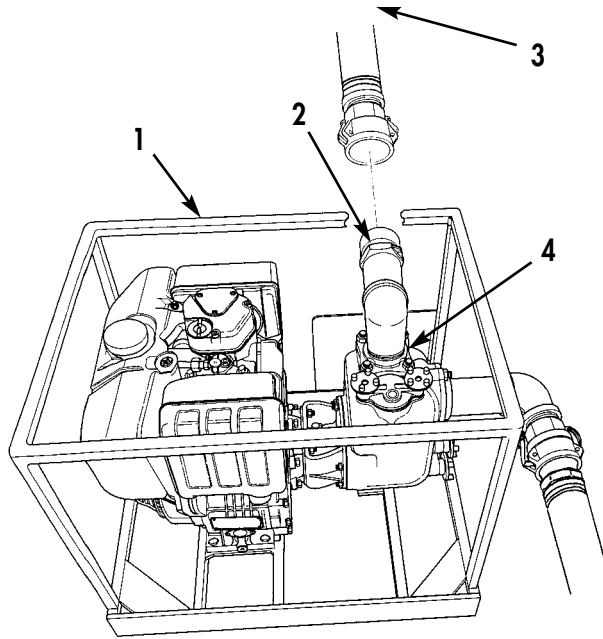

Figure 5. Discharge Hose Connection.
10. Remove cap and plug, and connect 2 in. (51 mm) DIA x 10 ft (3 m) long discharge hose assembly (Figure 5, Item 3) to MQD coupling (Figure 5, Item 2) on discharge port (Figure 5, Item 4) of pump (Figure 5, Item 1).